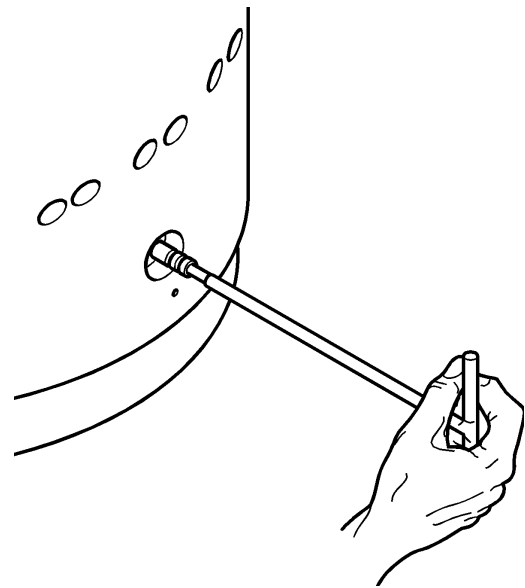

Figure 6.32
- The small ram will probably get out with the valve body; if this not, extract it (Fig. 6.32) by pulling spanner (09.040.0) after screwing its threaded end on small ram.